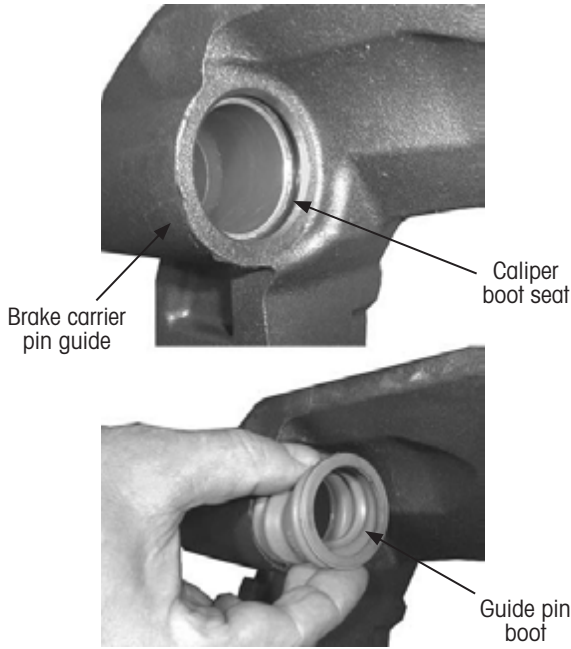

Figure 58: Guide pin boot
4. **Clean** the guide pin and boot seats of the brake caliper (Figure 58).
5. **Manually push** two new guide pin boots into the brake caliper boot seats (Figure 58).